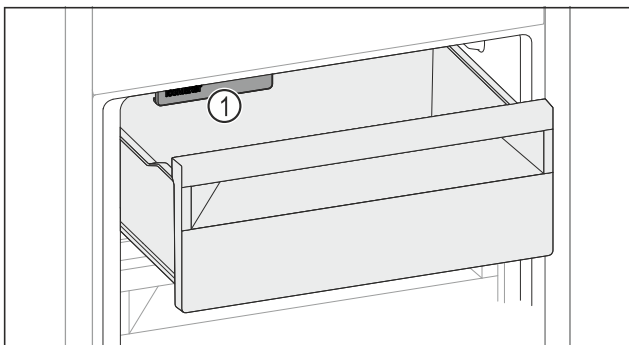

Fig. 130
- ▶ Watch out for the IceMaker Fig. 130 (1).